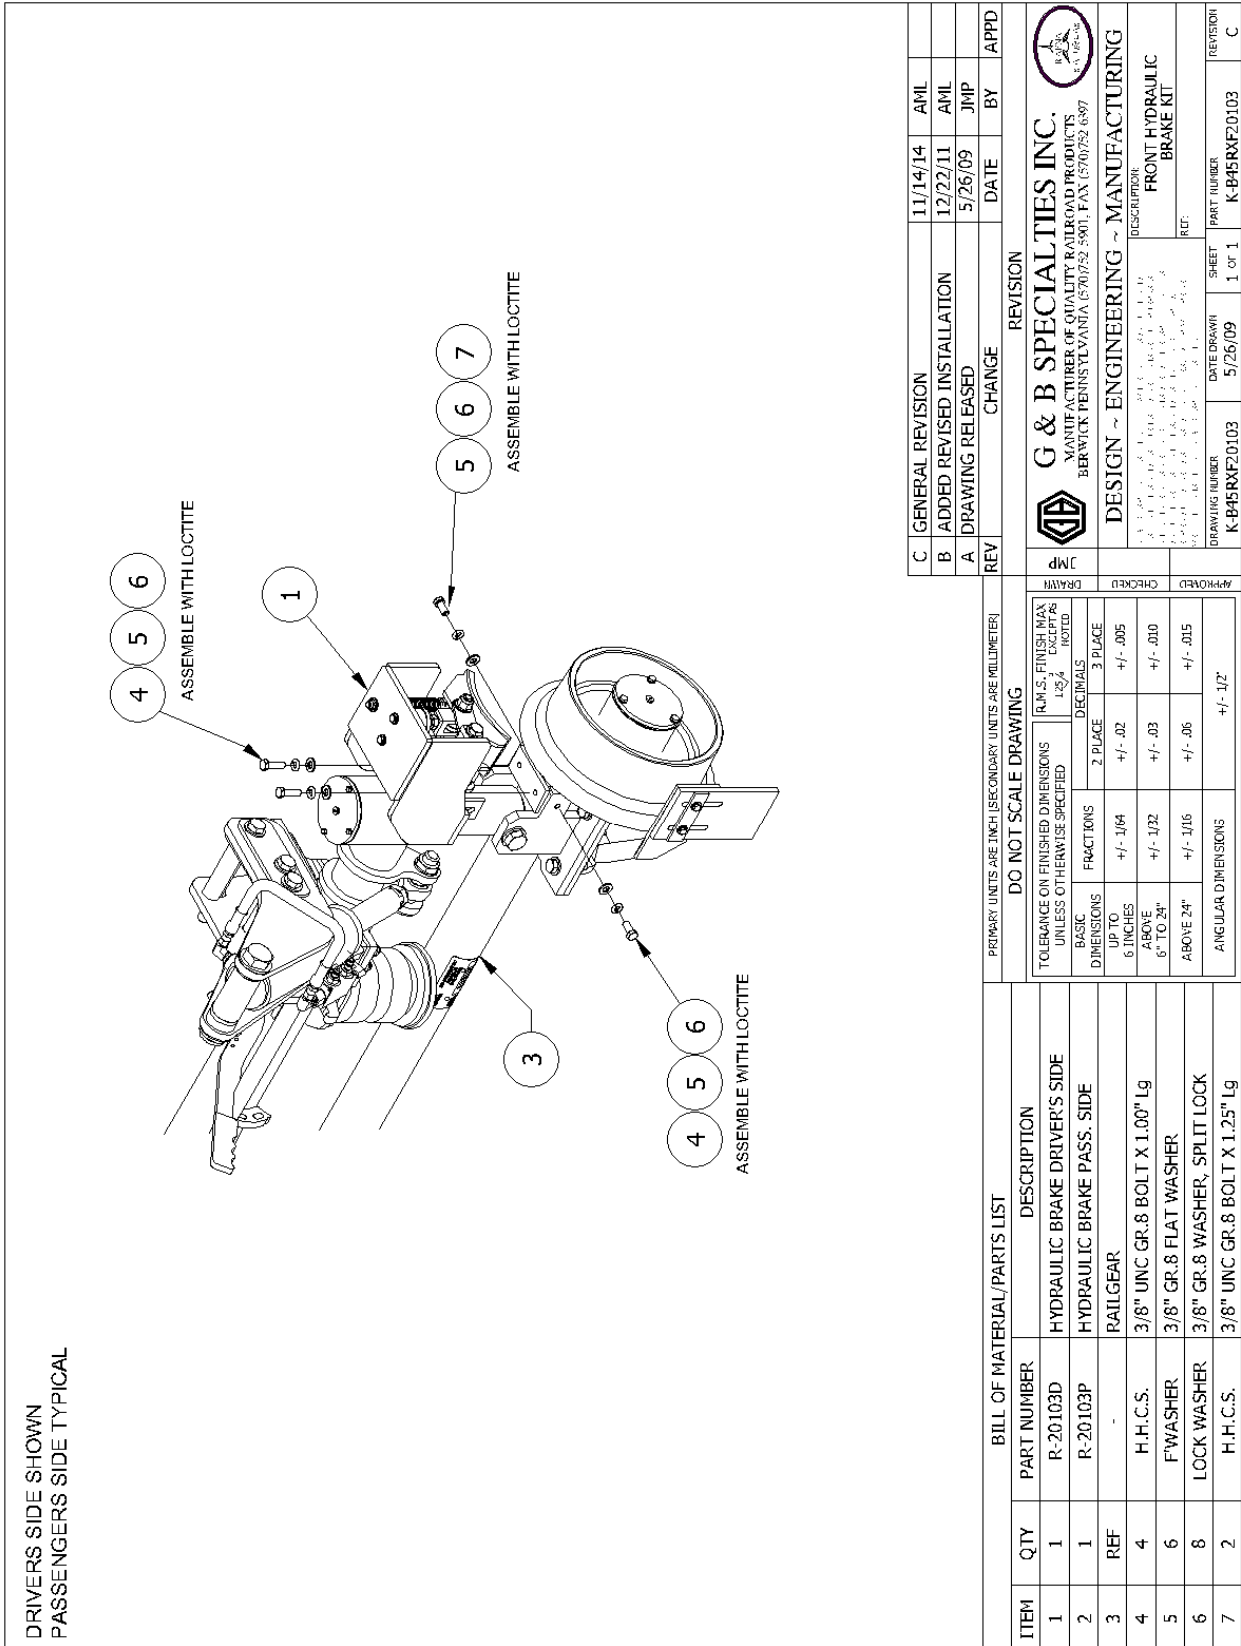

Figure 1: Brake Mounting Installation
2. Place the hydraulic brakes on the ends of the front railgear axle so that the 3/8" threaded holes align with the slots in the top and side mounting surfaces of the brake housing. The brake shoe linkage of each brake housing should be toward the front of the vehicle. (Figure 1)
3. Fasten each brake housing to the front railgear axle using the supplied 3/8" hardware shown in Figure 1. Torque the 3/8" fasteners to 45 ft-lbs dry. Do not over torque.